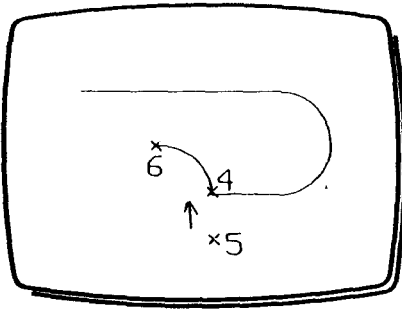

Fig 3
- 13 Move **XY** to position the dynamic cursor at (5) in Fig 3.